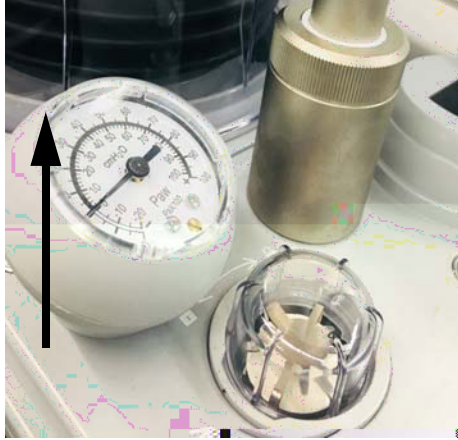

FIGURE 7-14 PAW Gauge Removal
1. The PAW gauge is a component that is plugged into position for use. It is not necessary to remove this component to clean it. However, if removal is desired, simply hold it and lift it straight up from the breathing system block (see FIGURE 7-14).